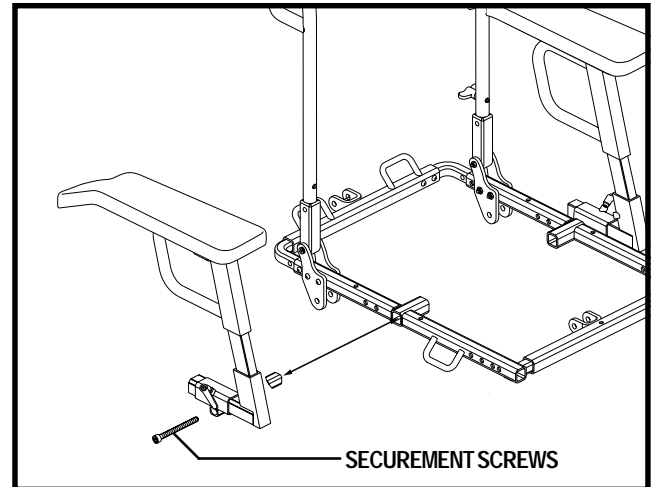

Figure 13. Armrest Width Adjustment
1. Loosen the securement screw located on the bottom of the armrest receiver bracket. See figure 13.